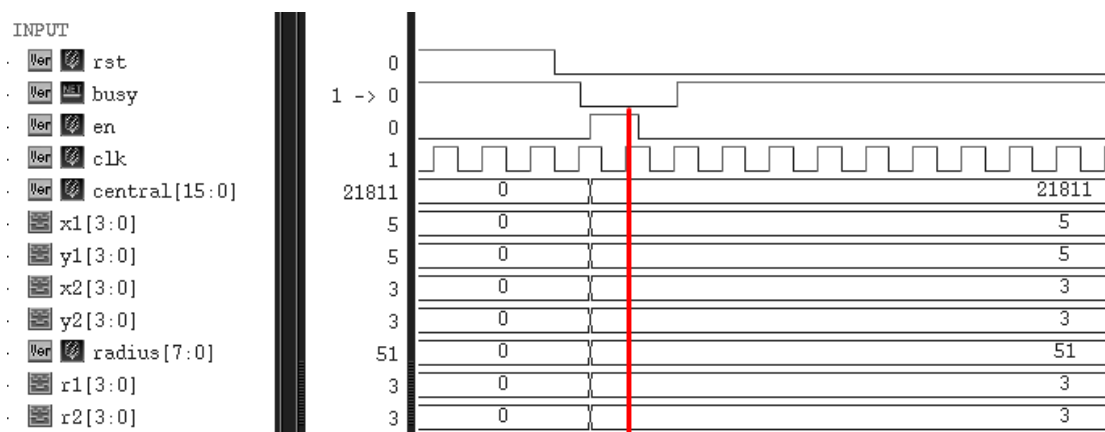

Figure 4: Input timing diagram
7. Following the completion of the circuit reset, the test module, upon detecting **busy=0** with the positive edge trigger of the clock signal, proceeds to raise the **en** signal to a high voltage and inputs new coordinate and radius data. Then, **en=1** signal is maintained for one cycle before being lowered back to a low voltage. The input timing diagram is depicted in Figure 4.